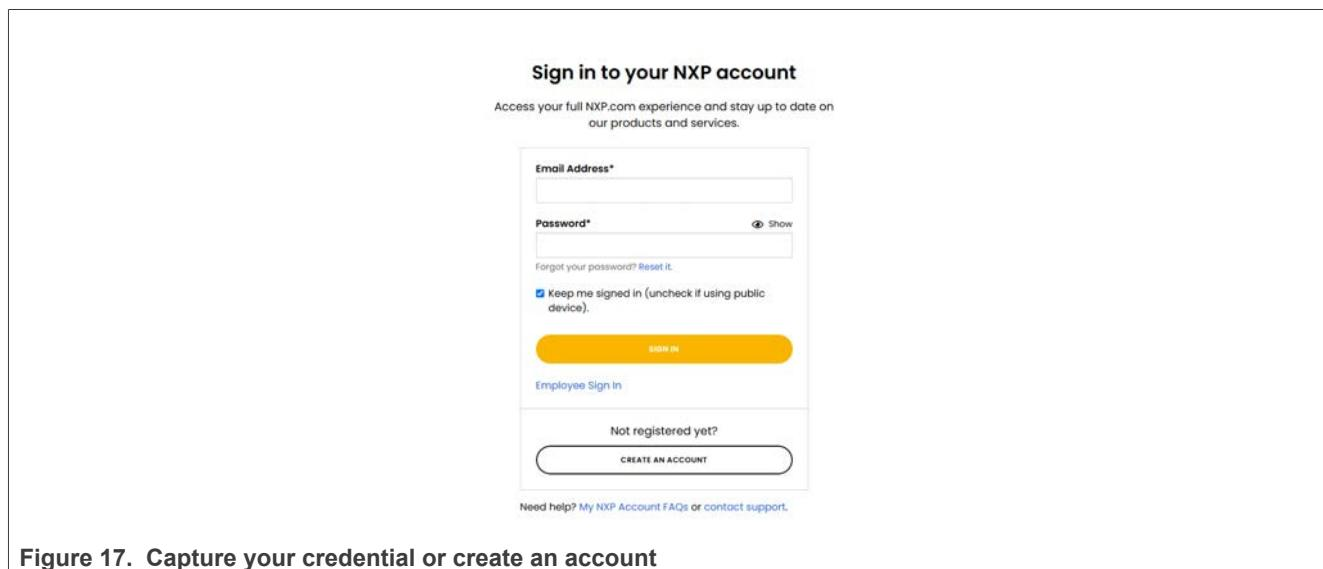

Figure 17. Capture your credential or create an account
Step 2 – Capture our credentials or click **Create an account** (Figure 17).